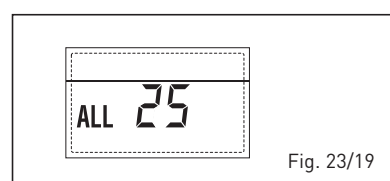

Fig. 23/19
- **AUXILIARY SENSOR ANOMALY (S3) “ALL 26” (fig. 23/20)**